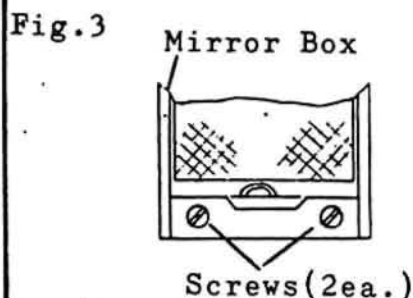

Fig.4
3. Disconnect the CdS lead wires.(Fig.4)